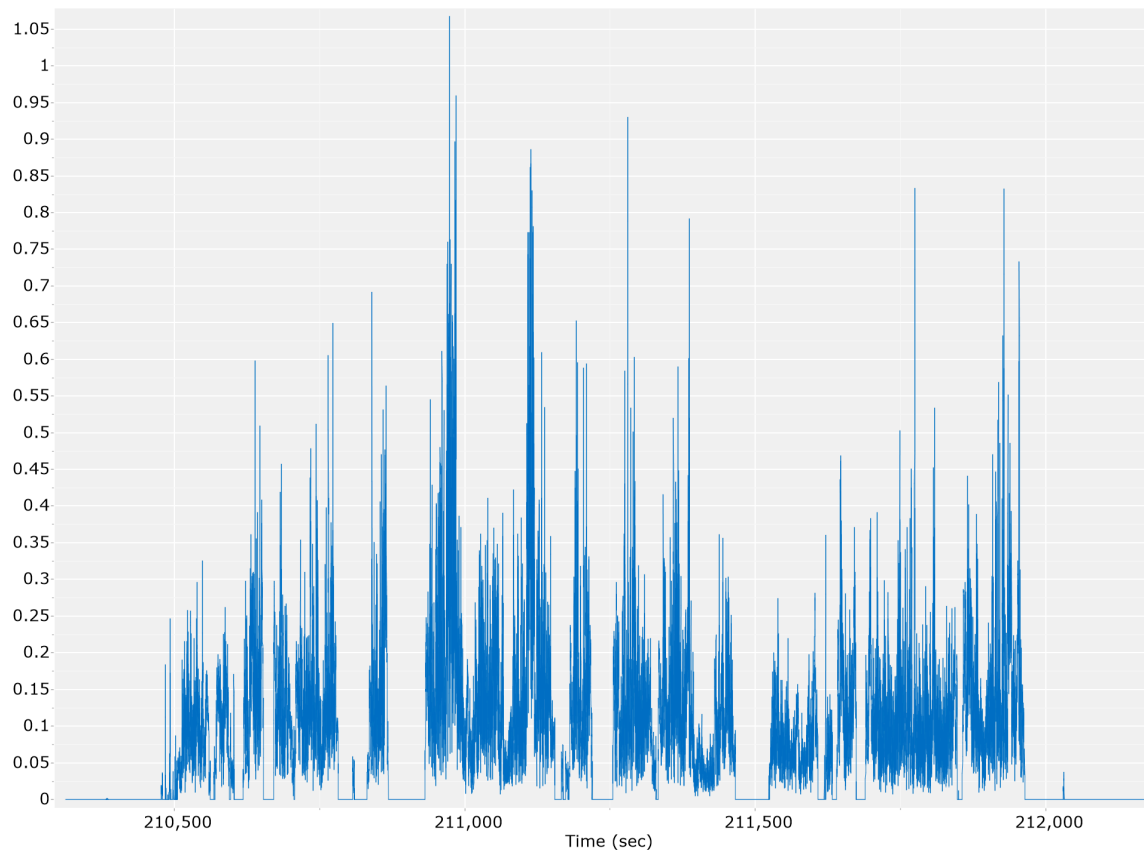

Fig 4: Total Body Acceleration
- *Provides information about the vibration level (Fig 4)*